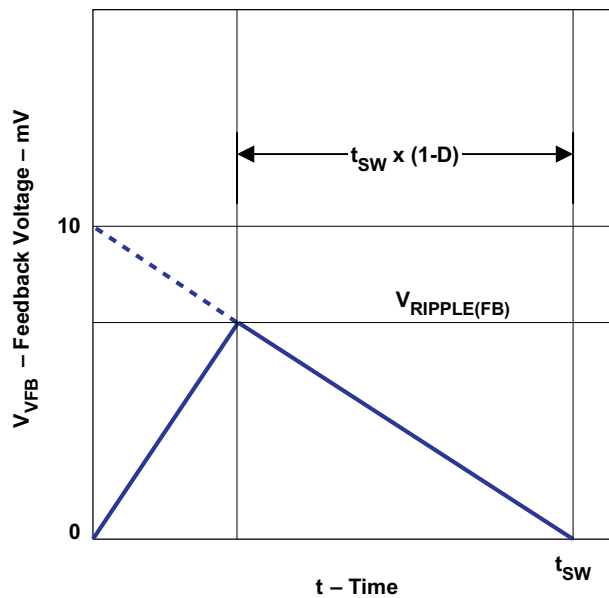

Figure 18. Ripple Voltage Down Slope
- the output ripple down slope rate is 10 mV/t_{sw} in terms of VFB terminal voltage as shown in Figure 18
- (8)